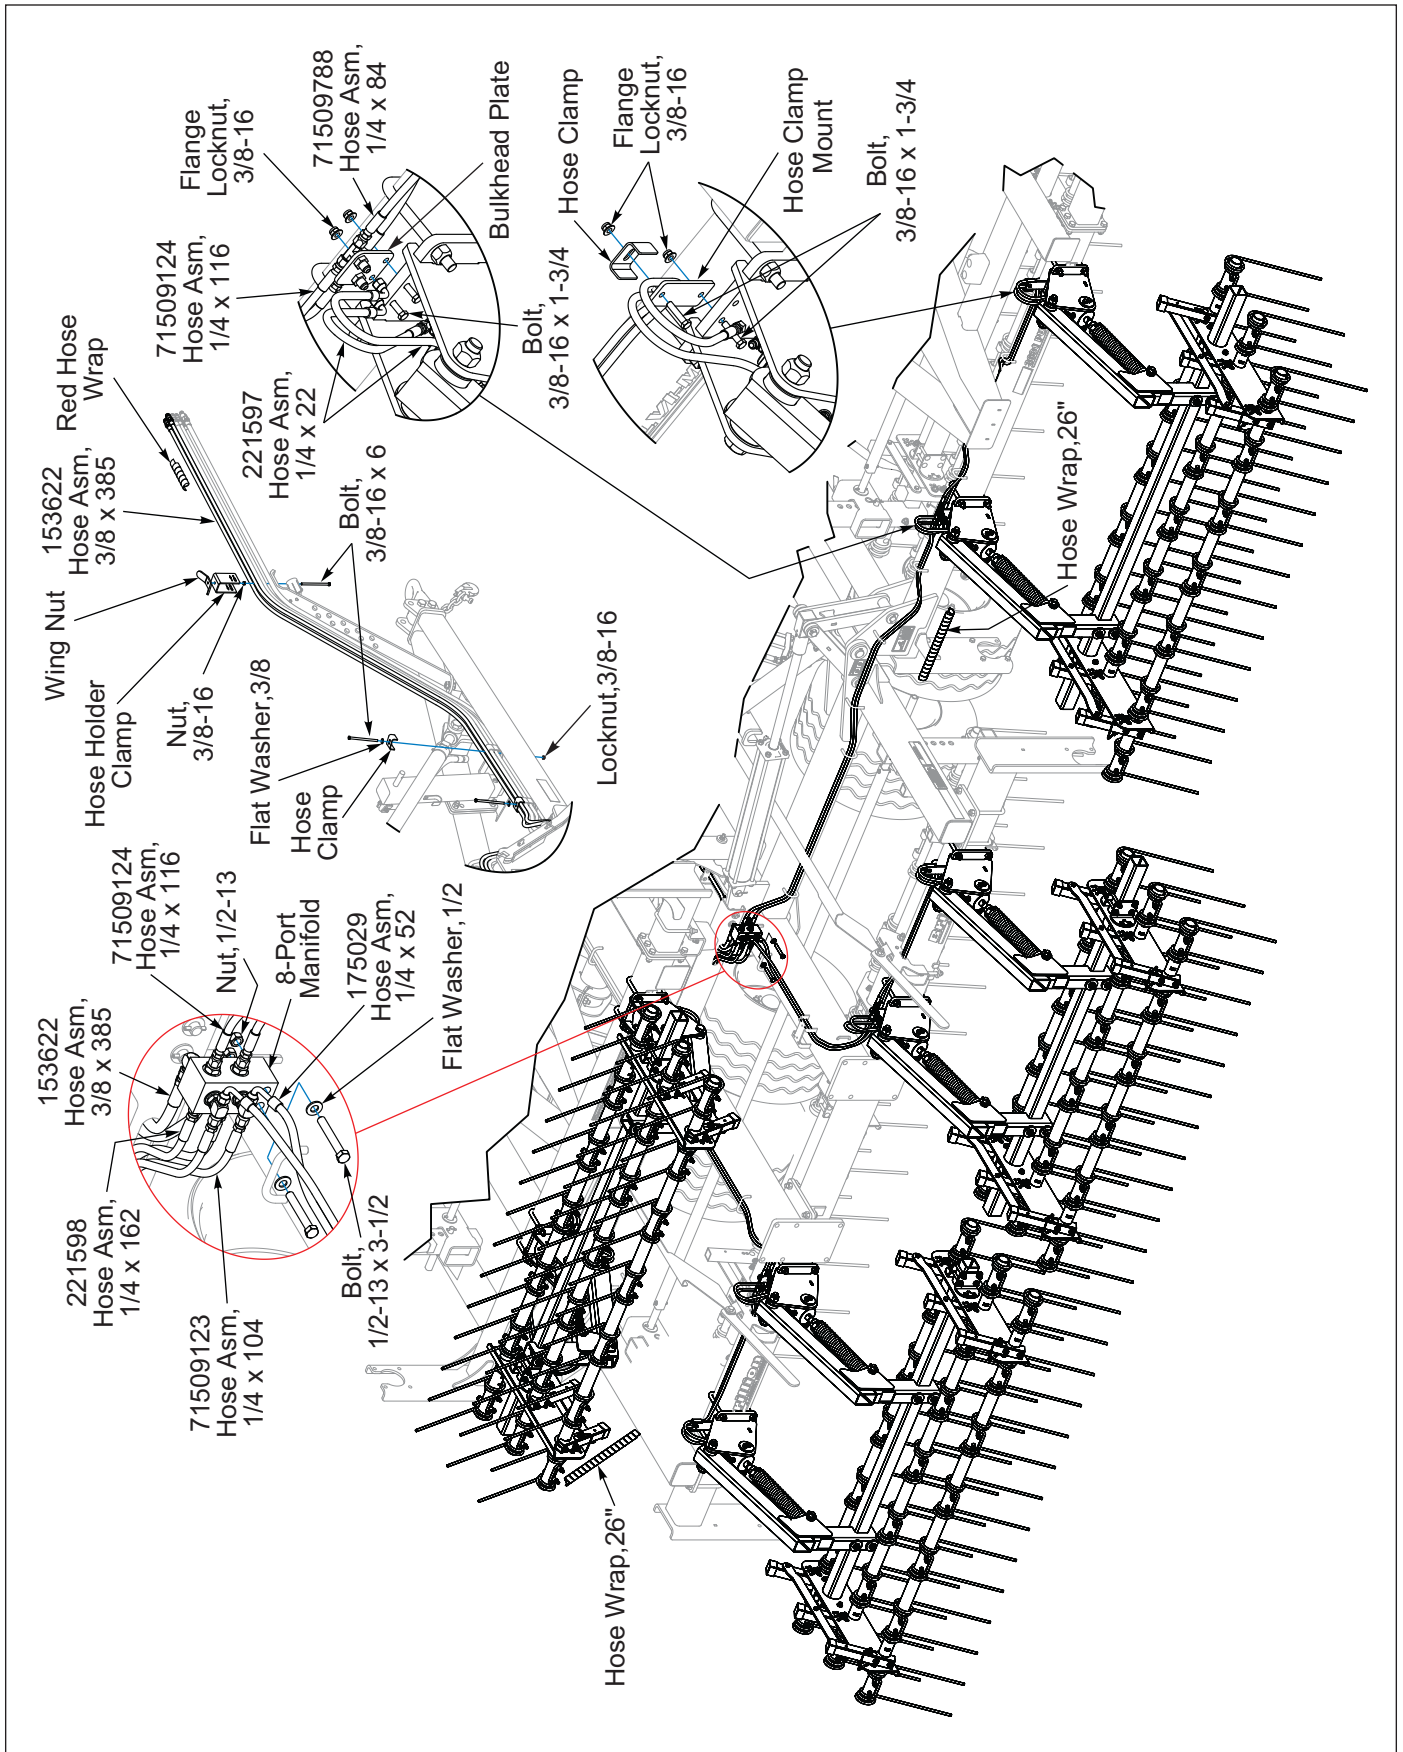
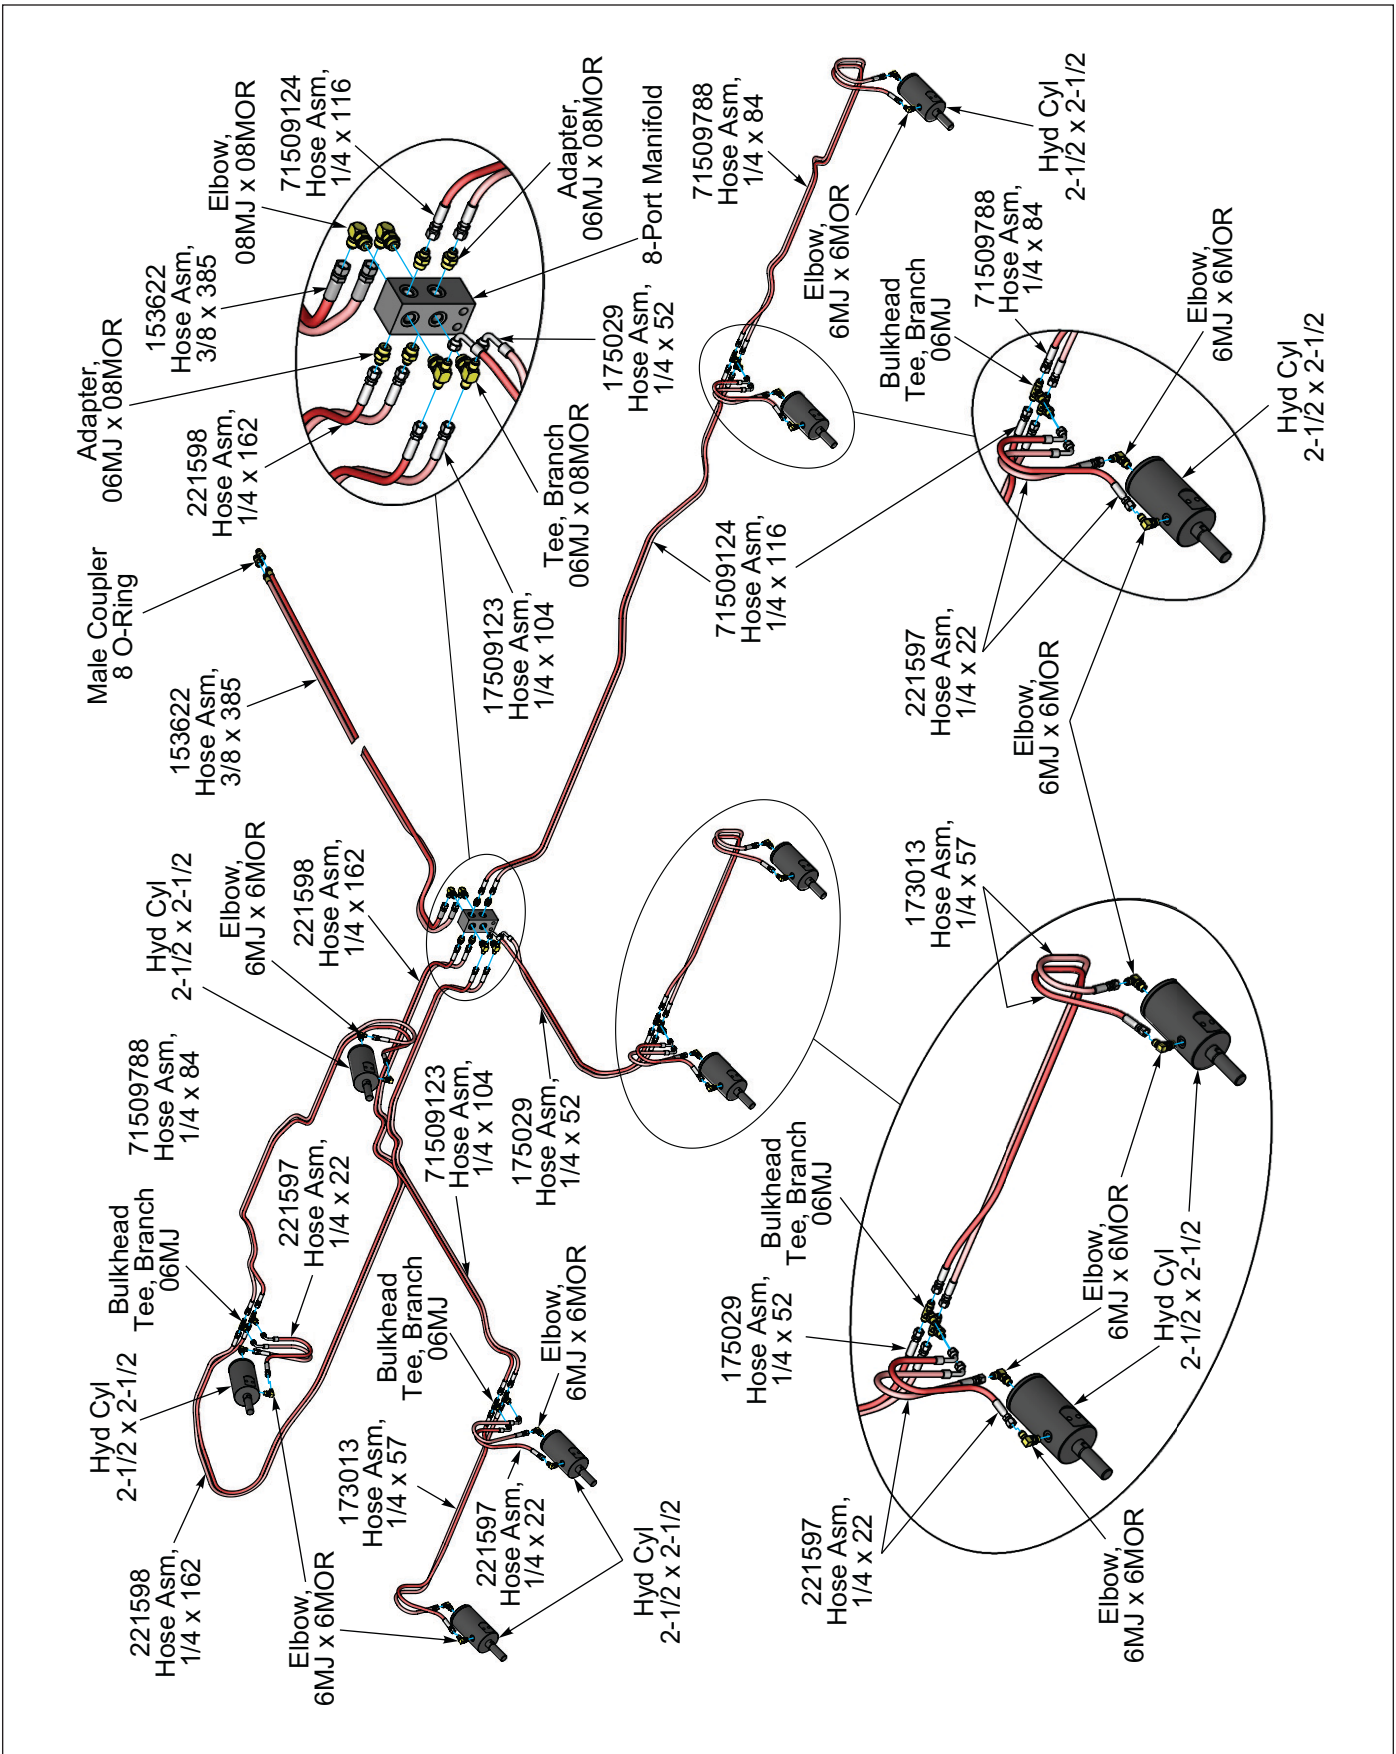

Figure 2-93: Harrow Kit, 3-Bar Coil Tine With Lift - Optional - Layout
Figure 2-94: Harrow Kit, 3-Bar Coil Tine With Lift - Optional - Hydraulic Schematic
1. Install 8-Port Manifold to the mount located at the rear of RH Inner 8x6 frame tube with 1/2-13 x 3-1/2 Bolts, Flat Washers and Nut. **See Figures 2-93.**
3. Install Fittings into 8-Port Manifold, Bulkhead Plate and Hydraulic Cylinders. **See Figure 2-94.** Hoses for the Left side of the machine, route them from the 8-Port Manifold through the Rear Wing Rest. Attach hoses to the Fittings. **See Figures 2-93 and 2-94.** On each side wrap both hoses near the Hinge Pin area with 26 inch Hose Wrap.